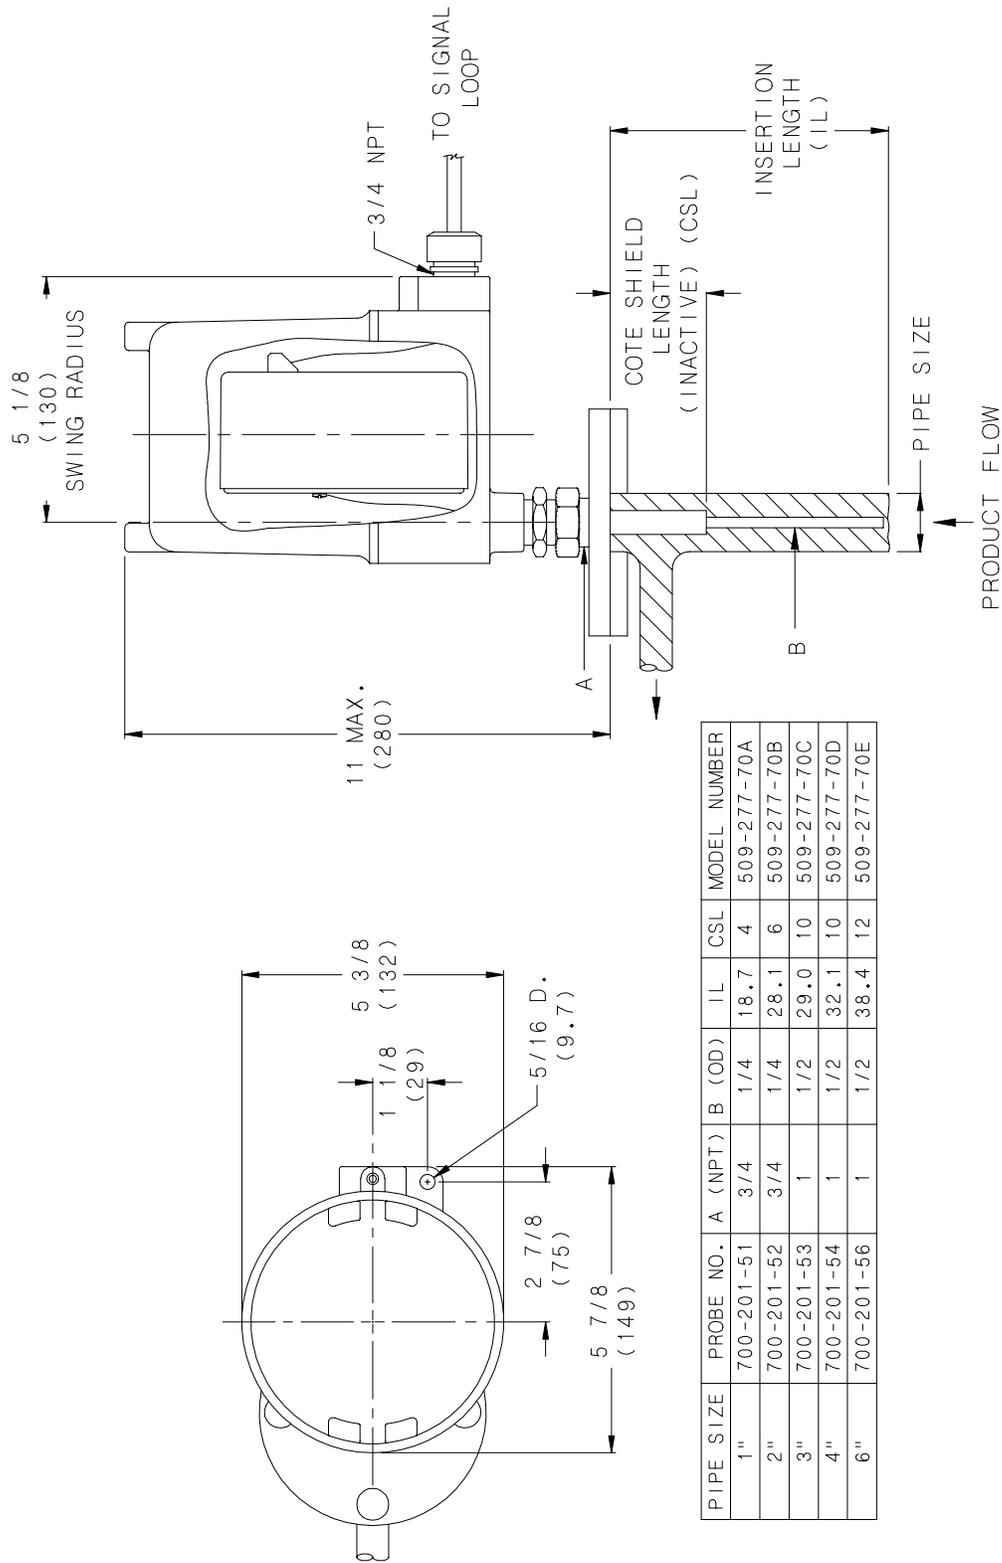

Figure 2-2
Figure 2-1 shows the recommended conduit installation. See Figures 2-2 through 2-5 for mounting dimensions.
- a. The sensing element should be mounted in a section of pipe as close to the center and as parallel to the pipe as possible. Factory calibration assumes mounting on the pipe centerline and in the correct size pipe (see Figure 2-2).